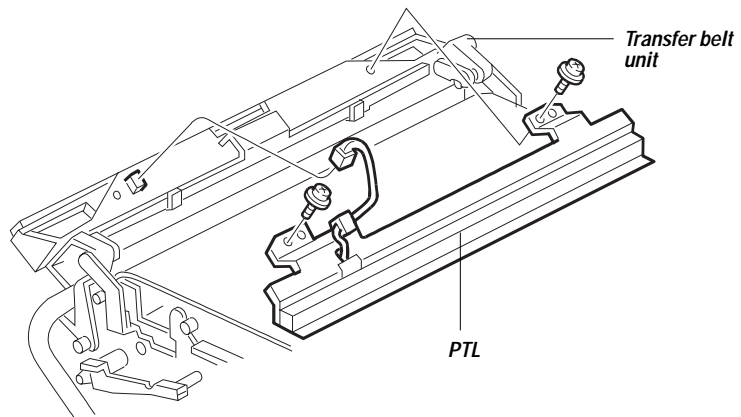

Figure 2-21 Installing the PTL
3. *Replace the PTL on the transfer belt unit with the PTL provided in this kit (see Figure 2-21).*